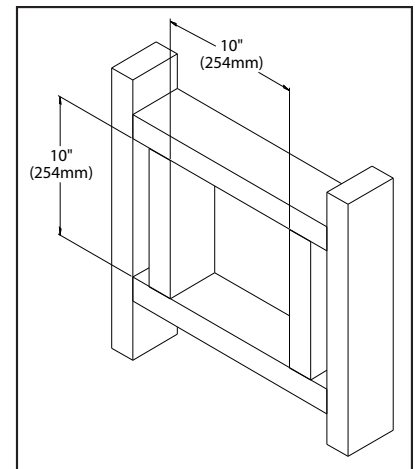

Figure 25: Wall Framing Hole for Horizontal Installation.
6. Frame the hole as shown in Figure 25.
3. With the pipe attached to the stove in the correct location, mark the wall for a 10" (25.4 cm) x 10" (25.4 cm) square hole (refer to Figure 25). The center of the square hole should match the center line of the horizontal pipe. Cut and frame the 10" (25.4 cm) x 10"